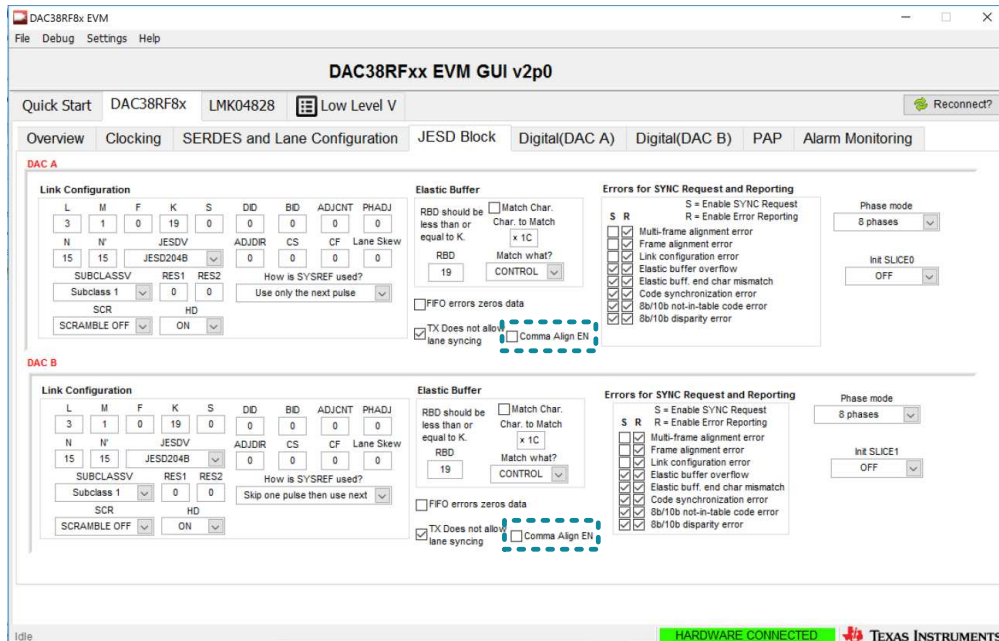

Figure 6. DAC38RF8x EVM GUI JESD Block Tab
Step 8. Select the *JESD Block* sub-tab (see Figure 6). Ensure that the *Comma Align EN* boxes are not checked.